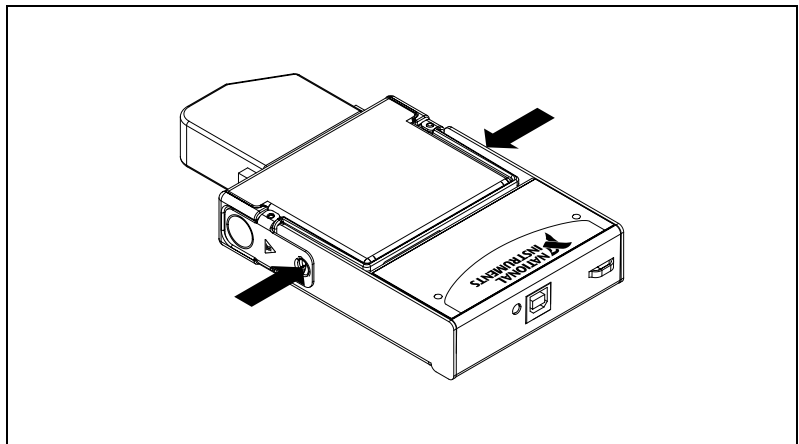

Figure 4. Locking Module into Place
5. Press firmly on the connector side of the NI 9211 module until the latches lock the module into place, as shown in Figure 4.